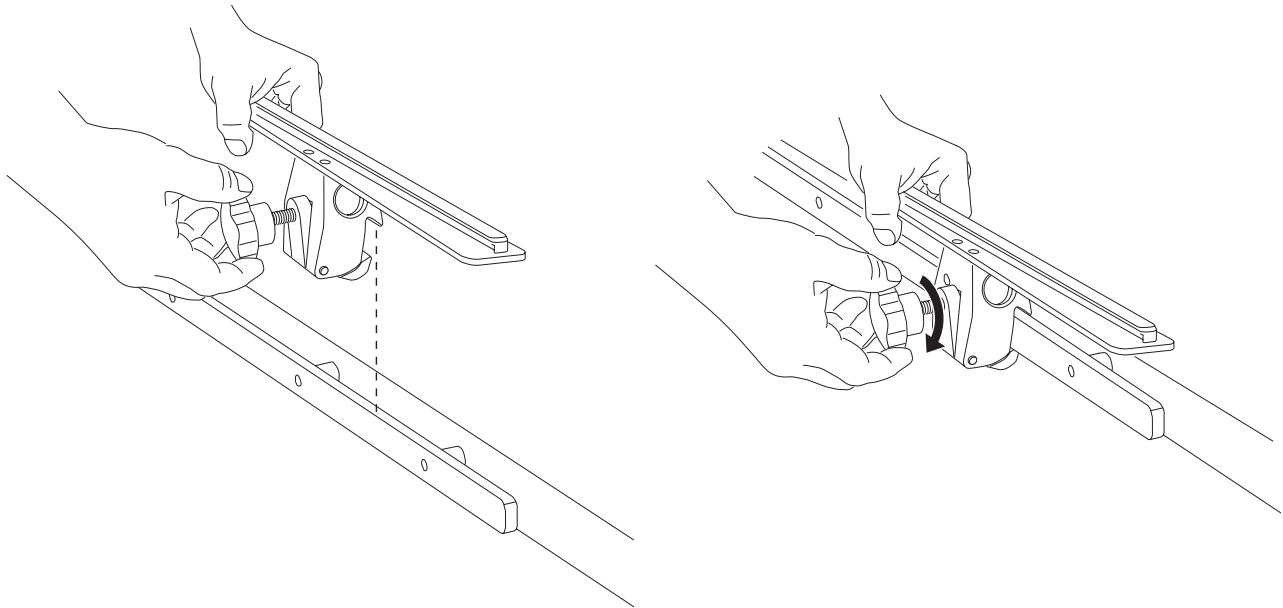

Figure 3-8: Installing a NEUWAVE Bed Rail Mount
1. Install the Bed Rail mount to the surgical table rail as shown in Figure 3-8.